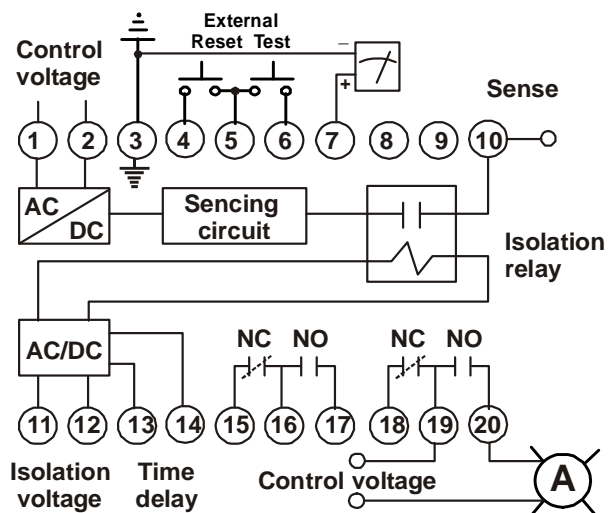

Fig. 2
2. Connect terminals 1 & 2 of MotoSafe device to the incoming control voltage (see Fig. 2).